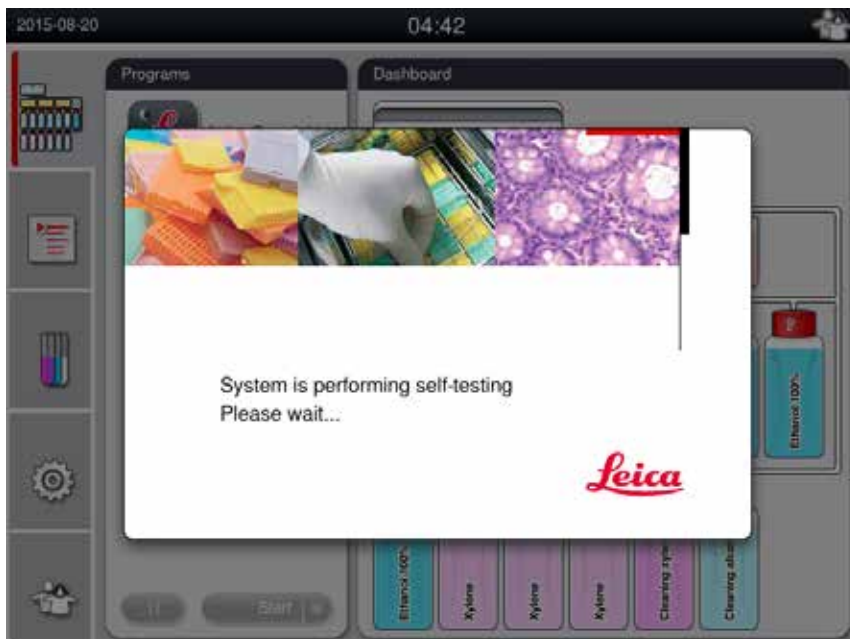

Fig. 26
3. After being switched on, the instrument will take a few minutes to initialize (→ "Fig. 26").